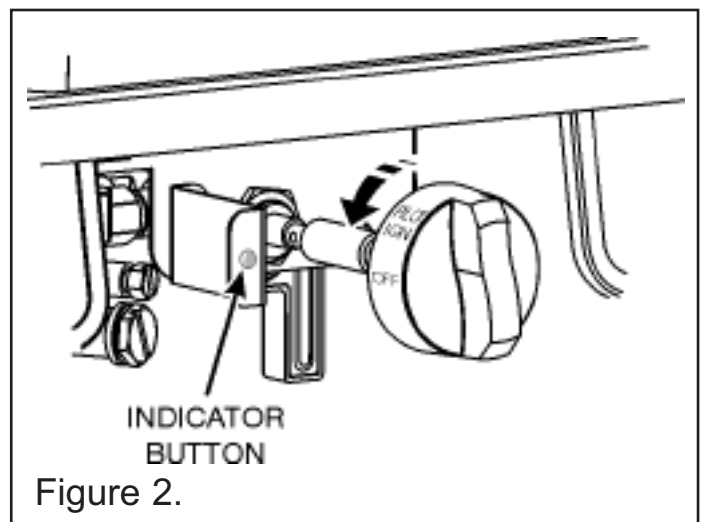

Figure 2.
- Depress the control knob and rotate it SLOWLY anticlockwise to the pilot ignition position (See figure 2). A 'click' will be heard as the integral piezo operates. A flame should appear at the pilot. The pilot can be seen by looking through the gap in the fuel effect (See figure 3). Keep the control knob depressed and hold the pilot ignition position for five seconds. When the control knob is released the pilot flame should remain lit. If a flame does not appear at the pilot then turn the control knob clockwise to the 'OFF' position and repeat the above.